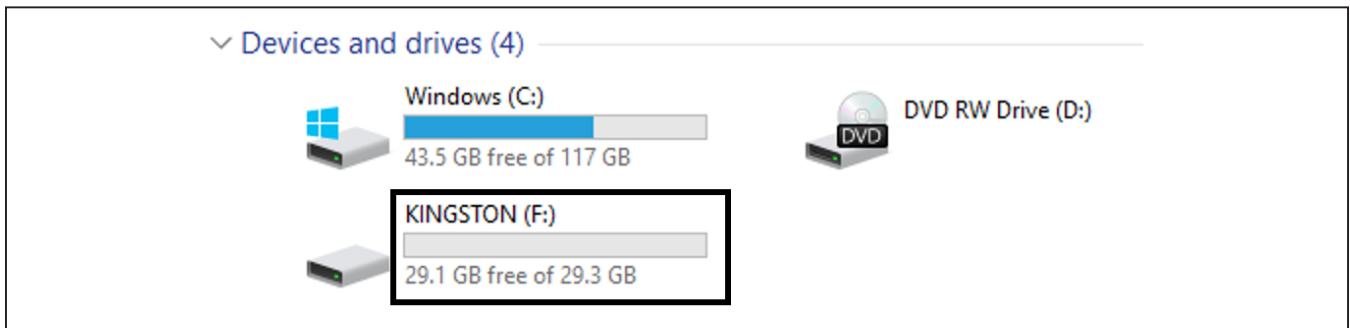

Figure 3. USB Flash Drive Recognized
- 10) Check that the USB flash drive is recognized on the host computer by opening the directory. This verifies the high-speed data switches are operating properly. See Figure 3.